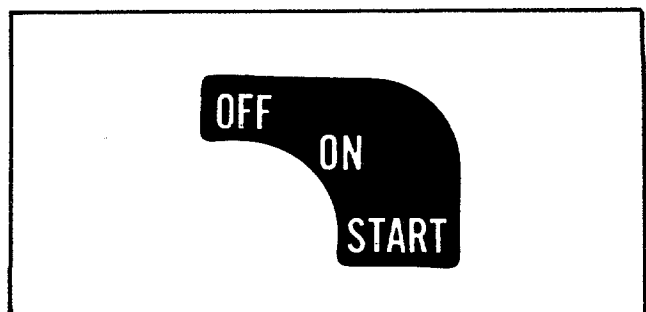

FIGURE 14. IGNITION SWITCH LABEL
- Step 5. Turn the ignition key to the right to start the engine. Allow the key to return to the **ON** position. See figure 14.